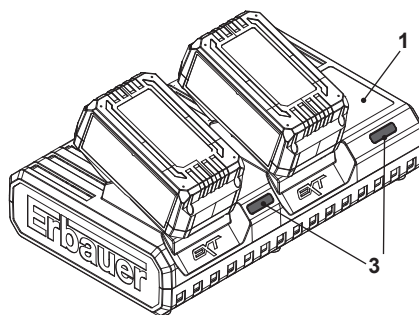

Fig. 4
Each charging status indicator (3) on the charger (1) displays the charging status of the battery pack (A or B) which is on the left (Fig. 4).